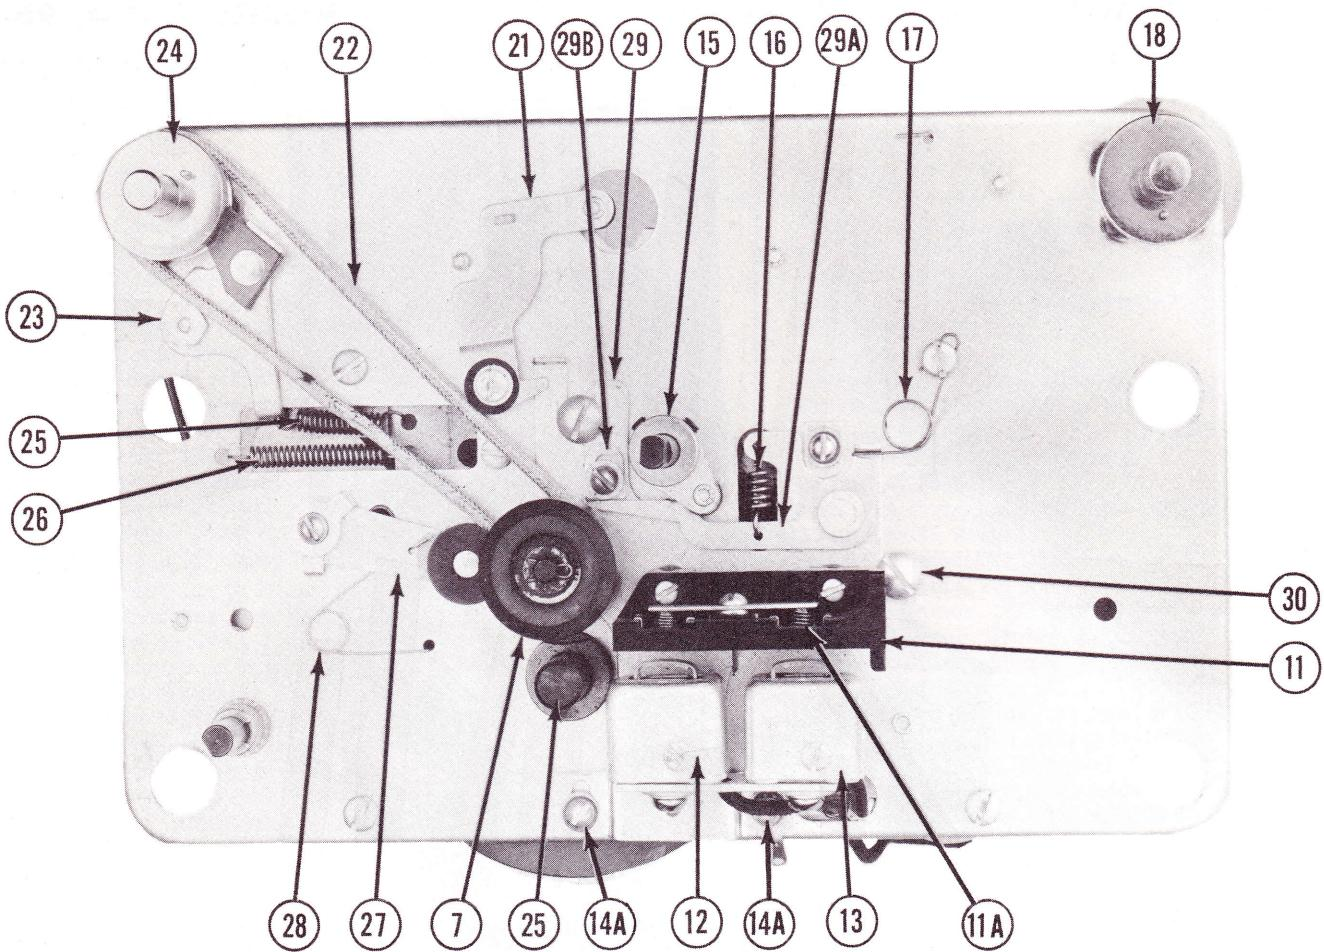

Figure 2
Set the pressure lever (15), see Figure 2, so that it is perpendicular to the pressure arm (29A) when the control knob is in the Record-Playback position. Also adjust the arm adjusting plate (29B) so it will clear the pressure arm (29A) by  $1/64''$  when in this position.
The head pressure is adjusted by means of the two screws (14A) in the slotted holes in the head bracket (14). See Figure 2. To make the adjustment, turn the control knob (1) to "Record-Play" position. Loosen the screws (14A) then adjust the head into the tape guide block (11) until the pressure pads (11A) show a movement of slightly less than  $1/32''$  on the reverse side of the tape guide (11).
4. Check pressure roller lever (15) to see if it is perpendicular to the pressure arm (29A). When in the "Record-Play" position. See Adjustments on "Pressure Lever and Arm Adjusting Plate".
5. Drive roller (57) or pressure roller (7) eccentric. Allow mechanism to run for 20 minutes. If after this time the rollers are still eccentric, replace with new rollers.
7. Detent spring (26) not properly connected. See Figure 2. If spring (26) is not connected, the detent slide (36) will not be held against the detent lever (38) resulting in the motor drive pulley (57) not being held in firm contact with the capstan.